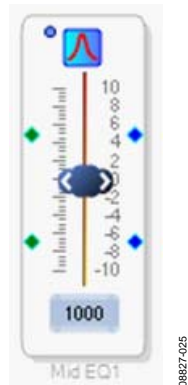

Figure 25. Single-Band Stereo EQ Cell
10. Click and drag the cell to the schematic (see Figure 25).